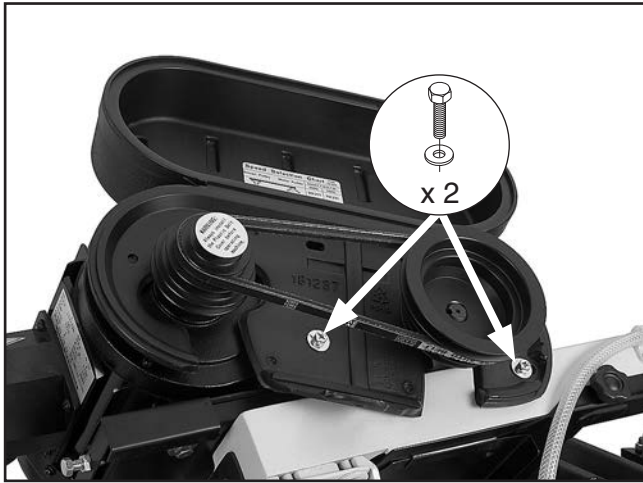

Figure 19. Pulley cover installed.
2. Remove (2) pre-installed $\frac{1}{4}$ "-20 x $\frac{1}{2}$ " hex bolts and (4) $\frac{1}{4}$ " flat washers.
3. Slide pulley cover over pulleys (see **Figure 19**).
4. Align holes and secure with fasteners you removed in **Step 2** (see **Figure 19**).